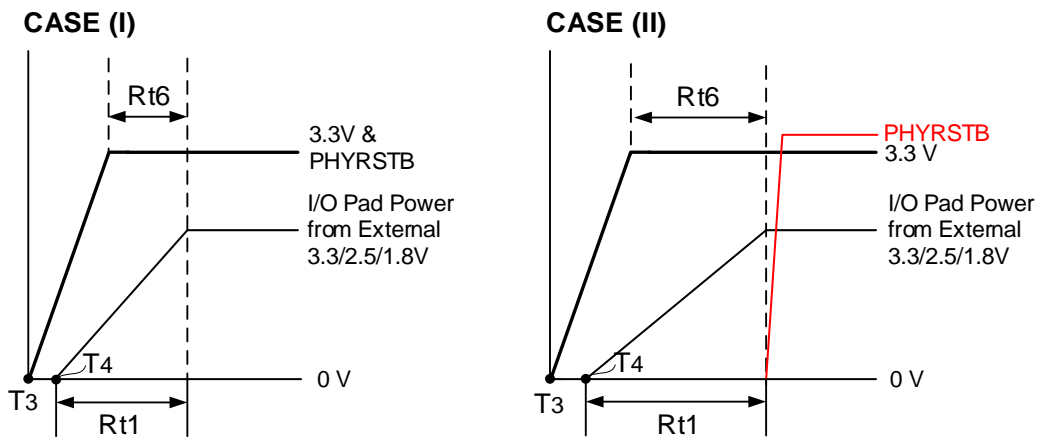

Figure 11. Power Sequence (I/O Pad Power Sourced Externally)
Note 7: When using an external power source for the I/O pad, the power should rise simultaneously or slightly later than 3.3V power, i.e. T₄ to T₃ in Figure 11.
Ready time of the external power should be within 5ms after 3.3V is ready. See CASE(I) in Figure 11, page 48.
PHYRSTB should be kept low until the external power is ready. See CASE(II) in Figure 11, page 48. Note that for this case, there is no constraint on the 'max' value of Rt6.